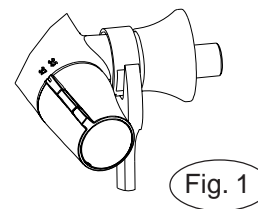

Fig. 1
**Filters and non-return valves:** The filters, protecting the mixer device can get clogged and reduce water flow. When this happens and remove the mixer clean the filters by soaking them in warm vinegar. (See fig.1 and 2)